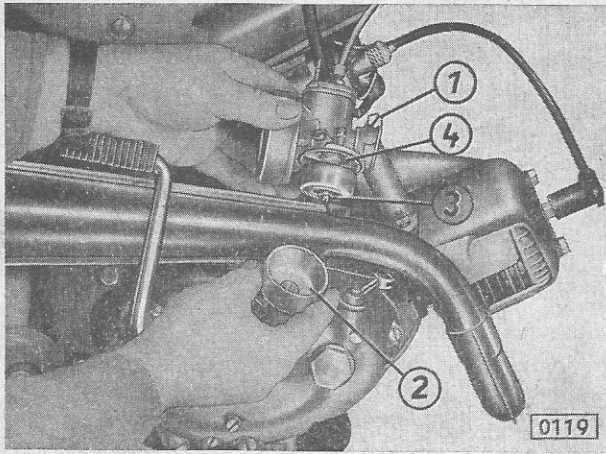

Fig. 19: Removing the main jet:
1. Slacken binding screw (Fig. 19/1) and swivel carburetter.
2. Unscrew annular float chamber (Fig. 19/2) and main jet (Fig. 19/3).
2. Dismount float chamber (Fig. 19/2).
3. Cautiously remove pin (Fig. 19/4) from float, dismantle float and detach the float needle. If required clean valve seat in the carburettor.